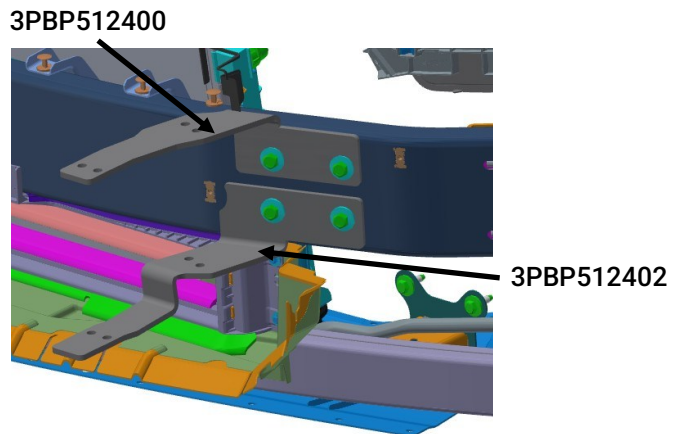

Figure 9b
D. Install the lower drivers side bracket [3PBP512402] reusing the OEM bolts (Figure 9b above).